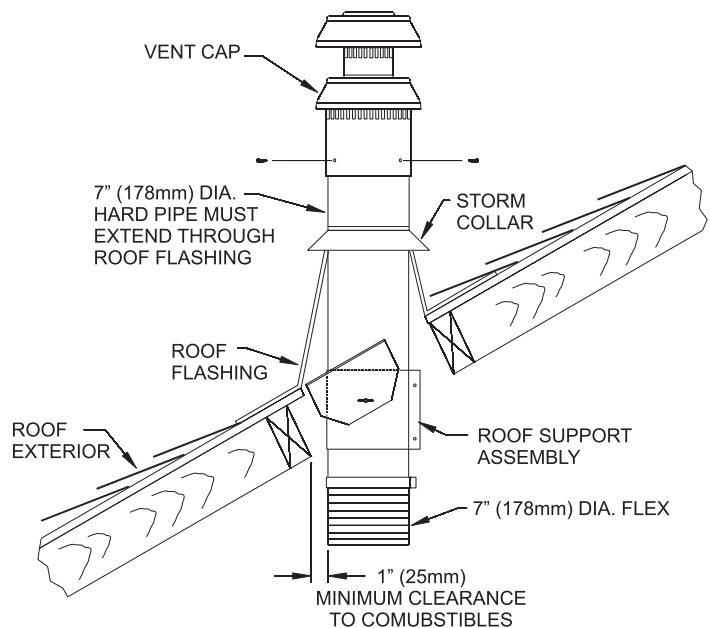

Figure 35
19. Once the lower connections are made and the flex pipe is secured with support bands as required (3 feet minimum between supports) then the roof flashing can be installed. **See Figure 35.**